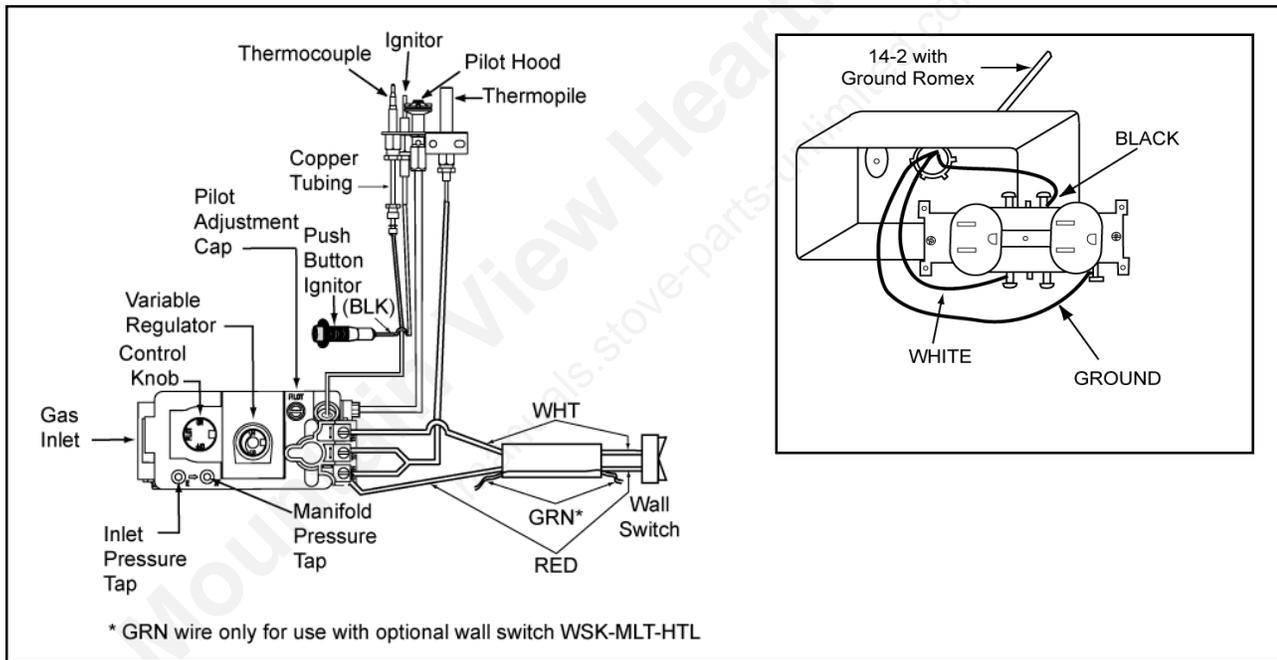

Figure 25
- a. **Appliance Requirements.** A wiring diagram is shown in Figure 25.